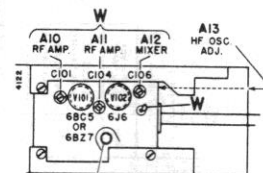

Figure 11. Top of TV Tuner, Showing Adjustment Location.
- c. Connect oscilloscope through a 10,000 ohm resistor to test point "W" on tuner (Fig. 11). Keep scope leads away from chassis.
- Connect oscilloscope through a 10,000 ohm resistor to test point "W" on tuner (figure 11). Keep scope leads away from chassis.